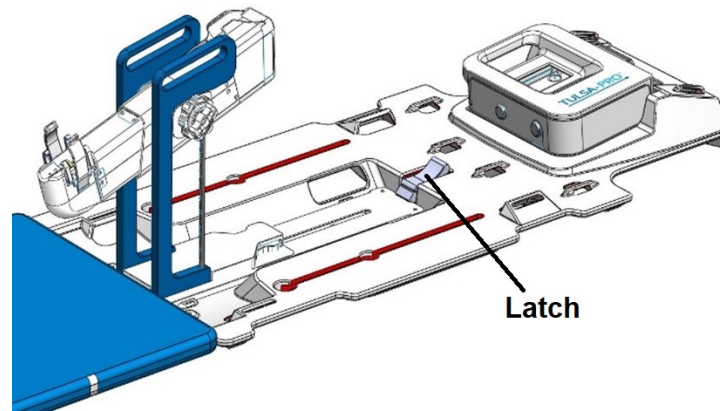

Figure 20: Secure the Positioning System using the latch on the base plate
2. **MRI Technologist:** Place the PSIB in its slot at the foot of the base plate. Secure the Positioning System (PS) to its slot on the base plate between the patient's legs by closing the latch (*Figure 20*).